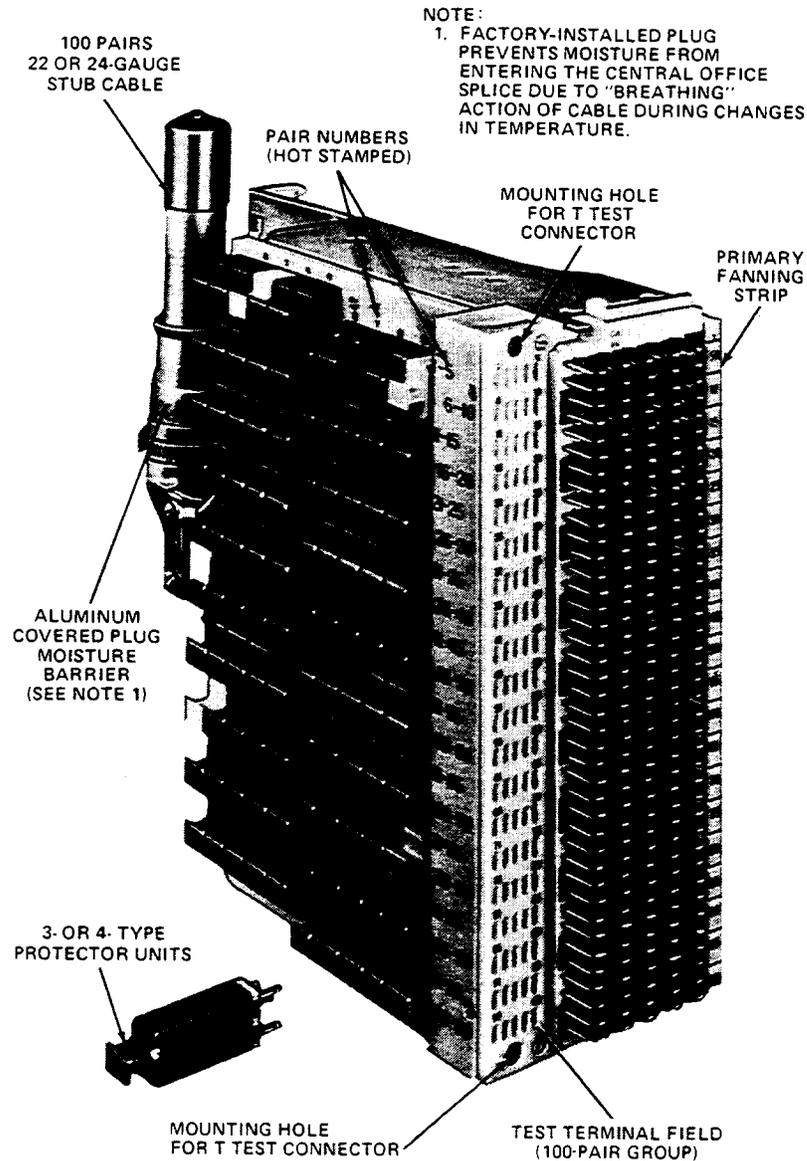

Figure 17—310-Type Quick-Clip Connector
6.03 The 310- and 310M-type connectors (Figures 17 and 18) are high density connectors used to terminate outside plant cables, requiring protection on